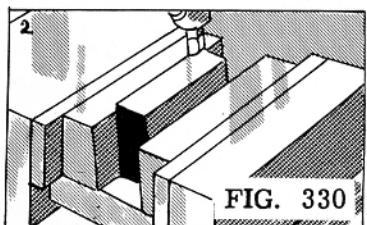

FIG. 330
3. Degree parallels placed in the vise offer a convenient method of setting the work at a slight angle with the vertical. When the work is held between the parallels and a cut is taken across the top of the piece, an angular surface is machined with the sides of the work (Fig. 330).